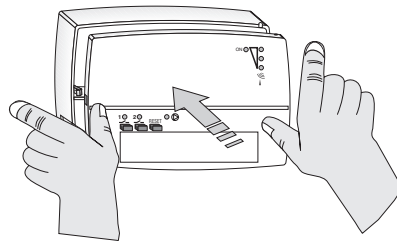

Fig. 9.i
- Push the front on to the base using both hands as shown in figure 9.i, until the catches click and lock the front to the base.
- Carefully reclose the receiver (fig. 9.I - fig. 10.I).
- Hold down **1/—** key until a single acoustic signal sounds; then release it: **LED 1** is flashing (fig.9). The new transmitter is coupled to the receiver.